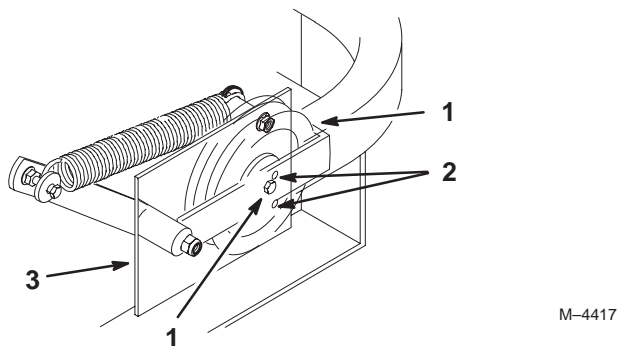

Figure 76
Important Check and make sure the belt is installed into both the front and rear belt guides (Fig 76).
4. Check the belt tension. The spring loaded idler center bolt needs to be near the top alignment hole in left support plate (Fig 76).